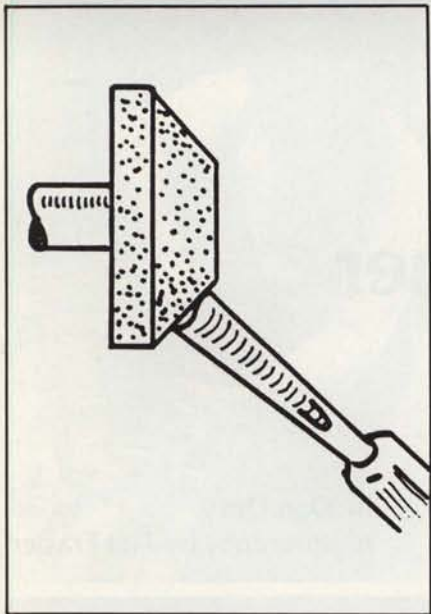
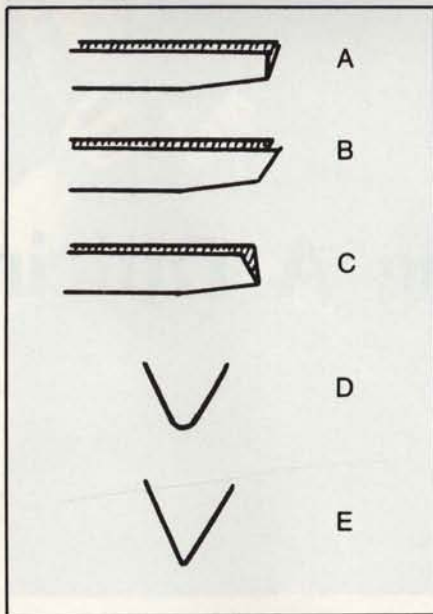

Figure 2. Squaring a gouge on the sanding/polishing wheel.
Figure 3. Shapes of the V-tool
Edge formation consists of shaping the bevel down to the cutting edge as well as in establishing its correct shape. To correct the end shape of a gouge, use a 3" sanding/polishing wheel as in Figure 2. It consists of aluminum oxide particles embedded in a rubber-like compound. Made by Black and Decker, it is sold in hardware stores as a drill accessory.
This wheel is also used to shape the V-tool. In Figure 3, the critical features of the V-tool are shown in the side views (A)-(C)
Next, mark the angles on the long edges as shown in Fig. 2 and lay out the cutting lines on the top of the material as in Fig. 3. With the band saw table tilted at the proper angle, cut the three half-rings and the half-disc from each piece. The matching halves can now be glued and band-clamped to give full rings of three graduated sizes.